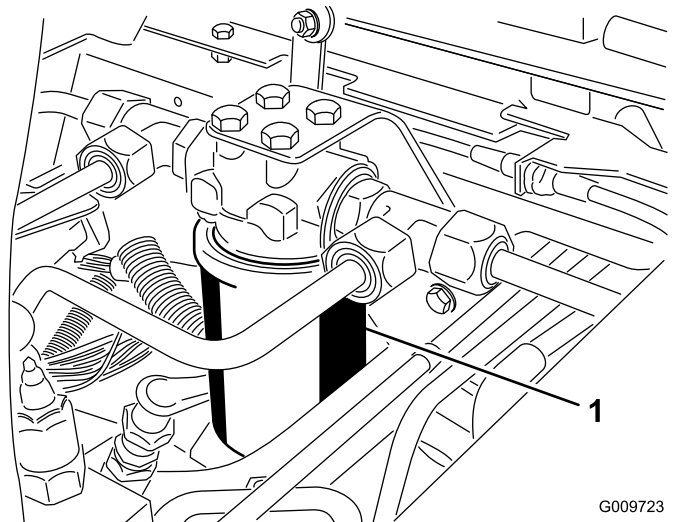
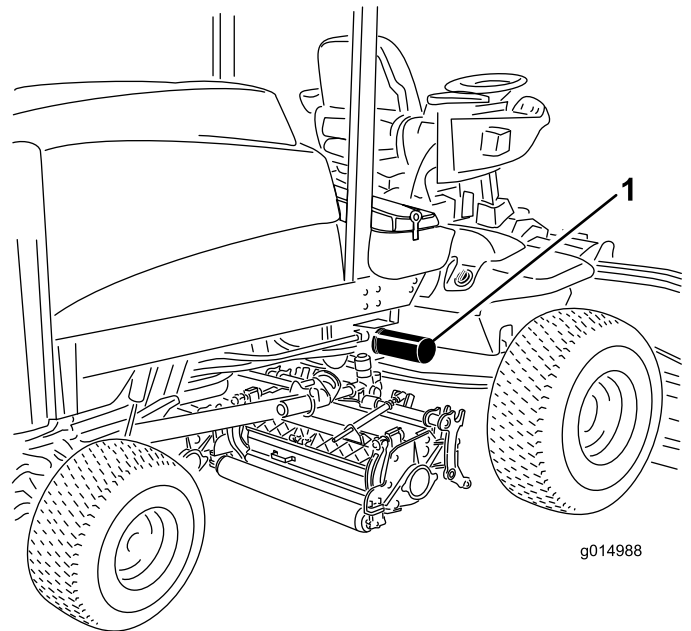

Figure 81
Figure 82
2. Clean the area around the filter mounting area. Place a drain pan under the filter and remove the filter (Figure 81 and Figure 82).